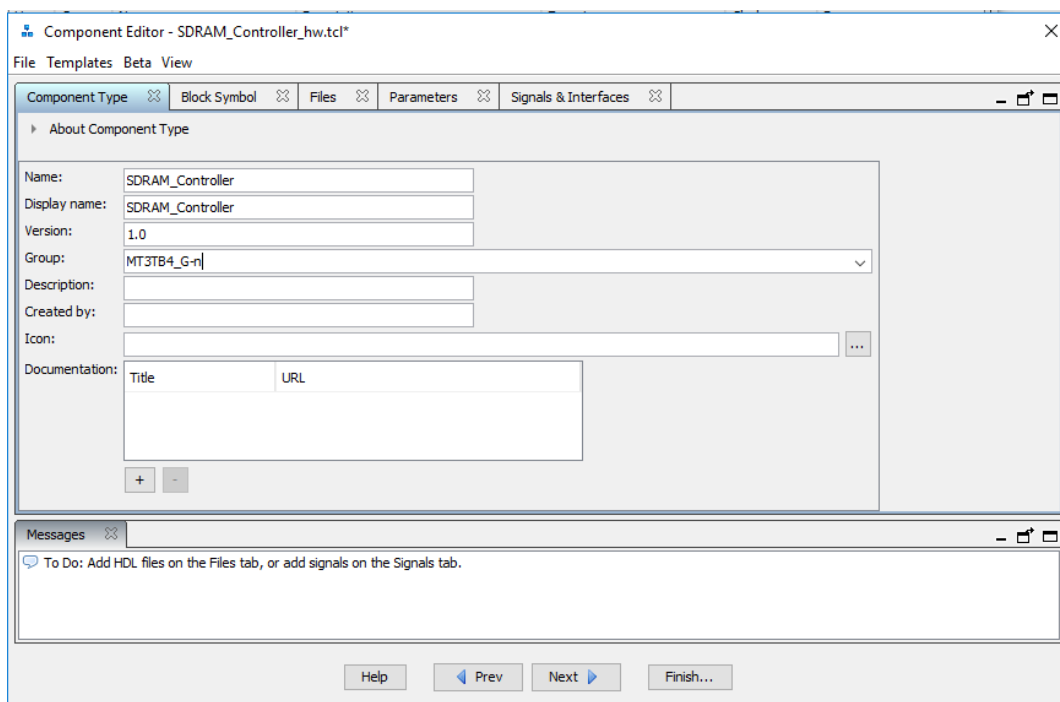

Figure 4: Specifying Component Type
- In the window that opens, define your own component for the system by specifying both the "Name" and the "Display Name" as "SDRAM_Controller". In the "Group" field, input "MT3TB4_G-n", where "n" is your lab group number (Figure 4). Click on "Next".